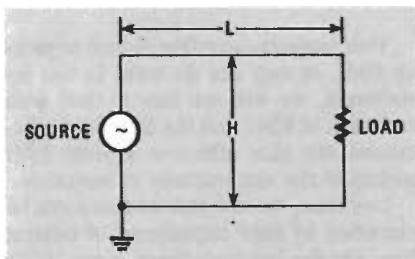

FIG. 1—THE AMOUNT OF INTERFERENCE that a circuit can pick up or cause is largely determined by the physical size of the loop that it forms.
That leads us to one of the most important rules for reducing EMI: When designing or laying out cable runs and printed-circuit board traces, keep the area of any potential loops small. Consider the simple circuit shown in Fig. 1. It consists of a signal source, a load, and a ground. The area of the loop is formed by the product of the *physical* distance separating the source and the load (L), and the physical distance separating the "signal" and "return" (grounded) leads (H).